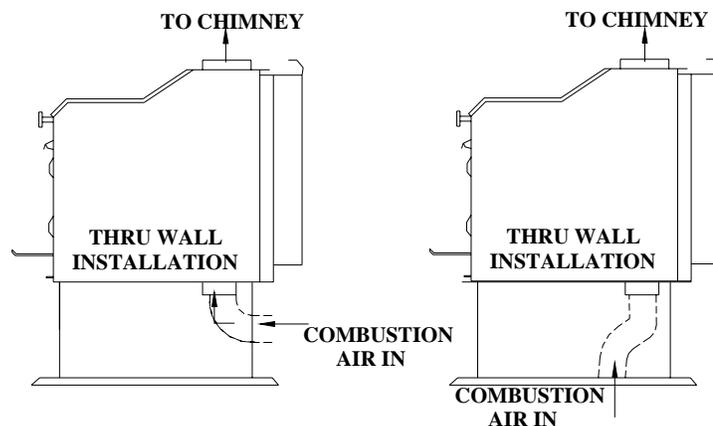

FIGURE 6: PEDESTAL INSTALLATION
- a. Locate the eight (8) bolts that came with the pedestal kit.
- 4. Refer to **FIGURE 6** and the following instructions for mounting the pedestal system to a Model R catalytic stove and to the floor of a mobile home. If the installer is working with a different model catalytic stove, the instructions and mounting procedures are the same.